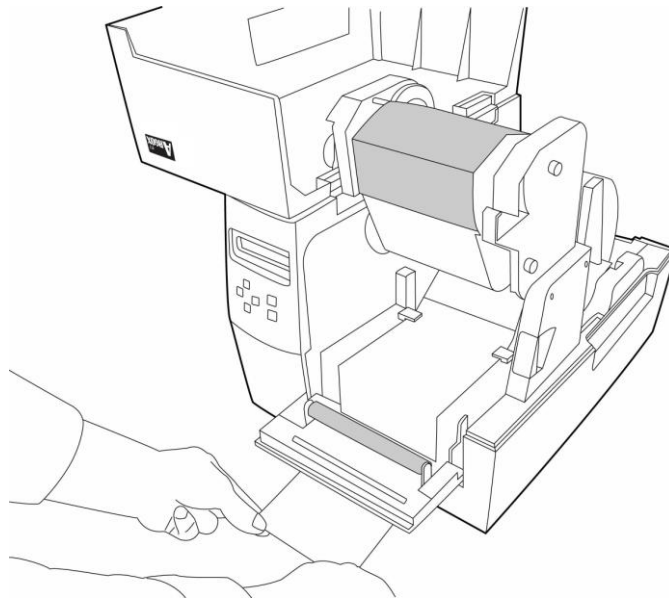

Figure 19
3. Lead the backing paper over the platen roller, and then thread it back into the slot. Make sure that the media is under the peeler module. (Figure 19)